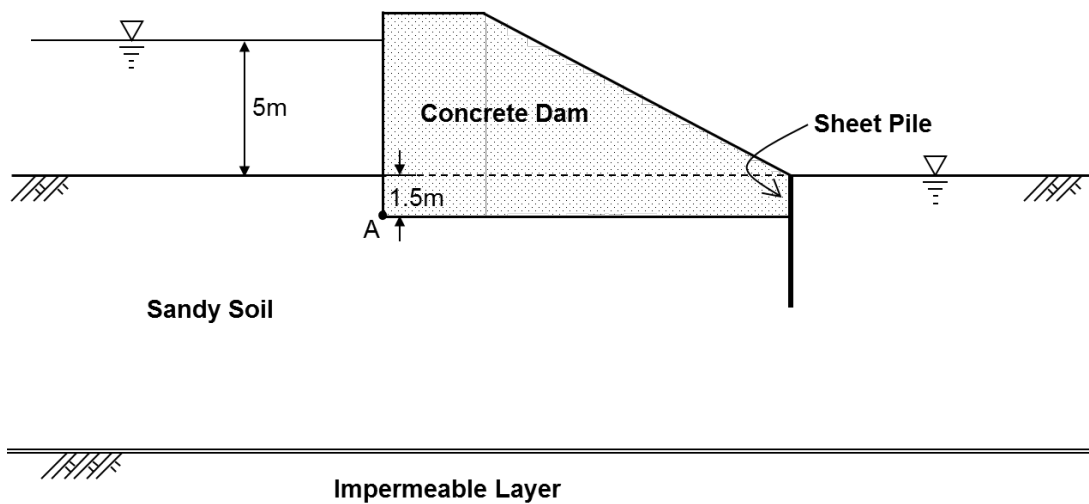

Figure 2-1. Concrete dam built on top of a sandy soil
[Question 2] Answer the following questions for the concrete dam built on top of a sandy soil shown in Figure 2-1. The hydraulic conductivity of the sand is 4.0×10^{-4} m/s and the unit weight of water is $\gamma_w = 9.81$ kN/m³. Use the second page of the answer sheets to answer parts (1) and (4), but use the third page of the answer sheets to answer parts (2) and (3).
(1) Explain the following concepts: